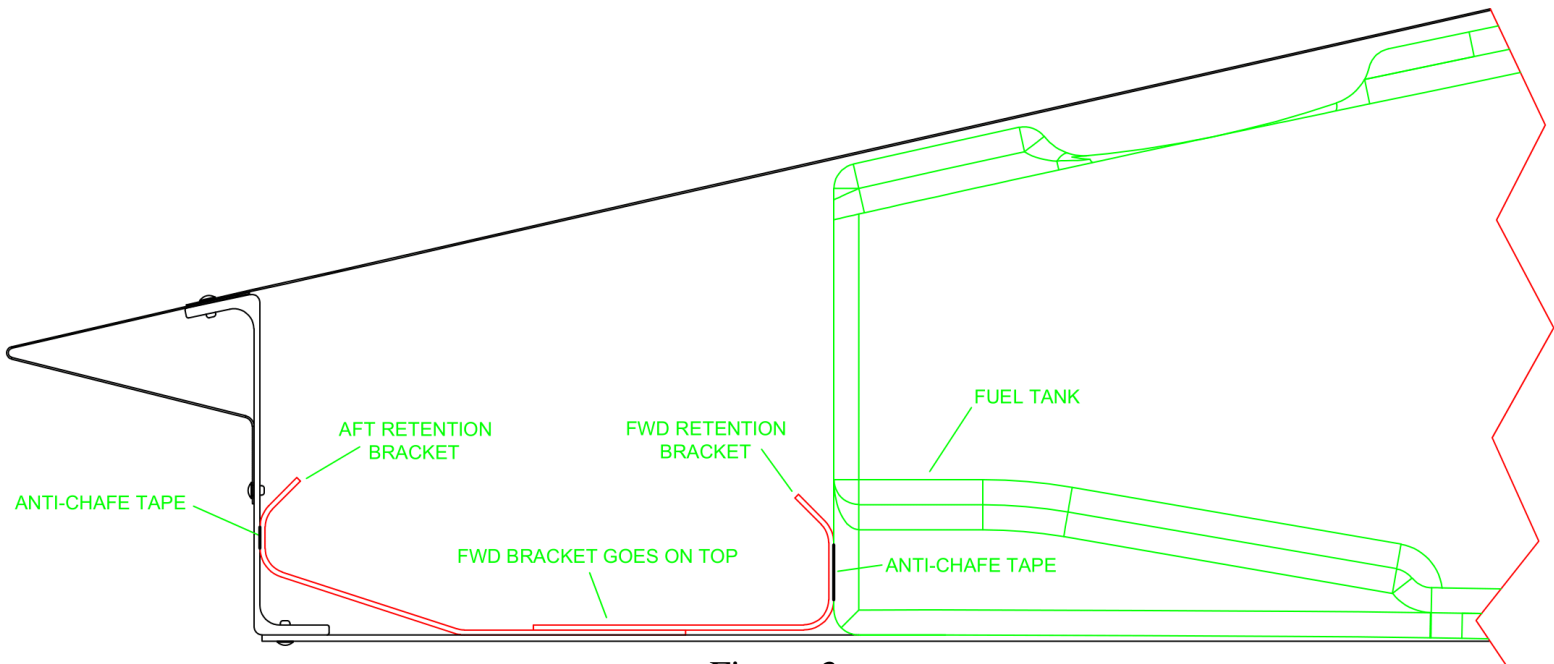

Figure-3
3. Insert the aft fuel tank retention bracket in the position shown in Figure-3. Make sure the bracket butts against the rib flange and is not overlapping. While holding the bracket firmly in place against the rear spar and not overlapping the rib flange, use a felt tipped marker to locate the rivet holes through the newly drilled #40 holes. Repeat the process by holding the **FWD Tank Retention Bracket** up to the fuel tank.